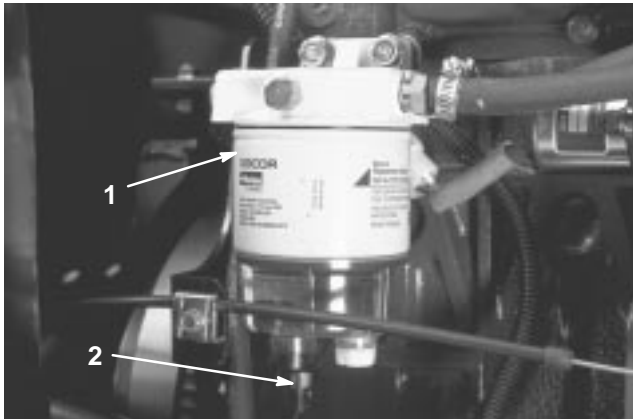

Figure 44
Drain water or other contaminants from the water separator (Fig. 44) daily.
2. Loosen the drain plug on the bottom of the filter canister (Fig. 44). Tighten the plug after draining.